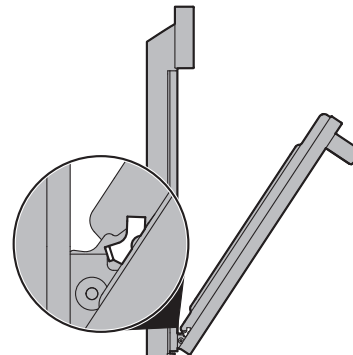

Figure 16: Removal position
3. Grasp the door by the sides, and close the door until the door frame makes contact with the unlocked hinges (Figure 16).
2. Hold the oven door at the same angle as the removal position (Figure 16). Carefully insert the hinge levers into the oven frame until you feel the hinge levers are seated into the hinge notches. The hinge arms must be fully seated into the hinge notches before the oven door can be fully opened.